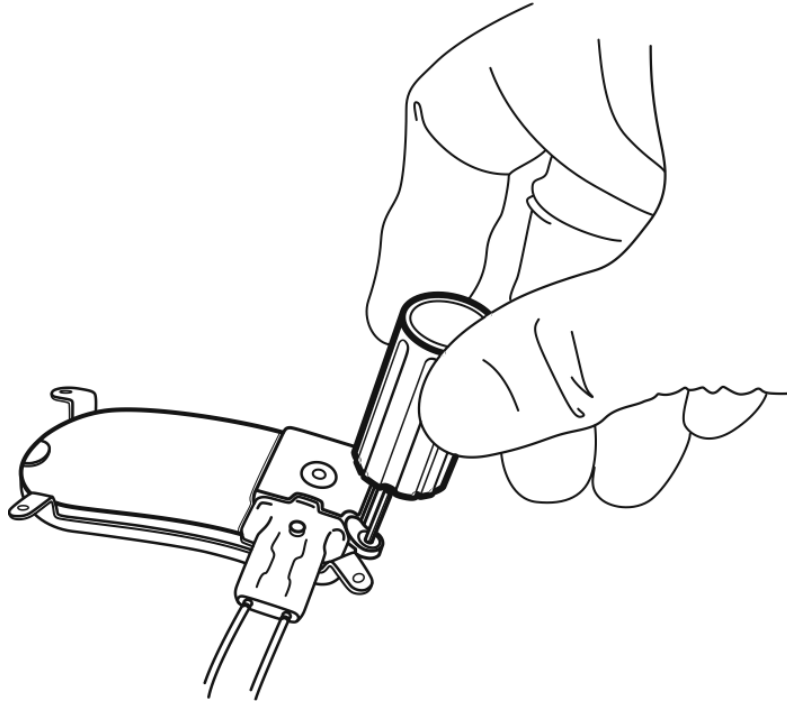

Figure 12: The ferrule clamp securing the neurostimulator to the ferrule.
10. Rotate the ferrule clamp so that it engages the neurostimulator then fully tighten the ferrule clamp screw until the torque driver clicks (Figure 12).
13. Secure the neurostimulator to the ferrule by rotating the ferrule clamp into position over the neurostimulator and tightening the ferrule clamp screw until the torque driver clicks (Figure 12).